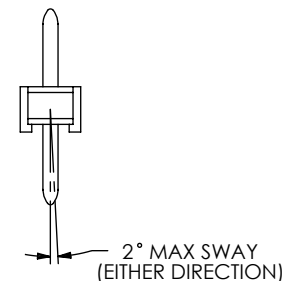

FIG 1
-S: SINGLE (TMM-50-S, SEE FIG 1)
(SAME AS FIG 1, DIFFERENT AS SHOWN)